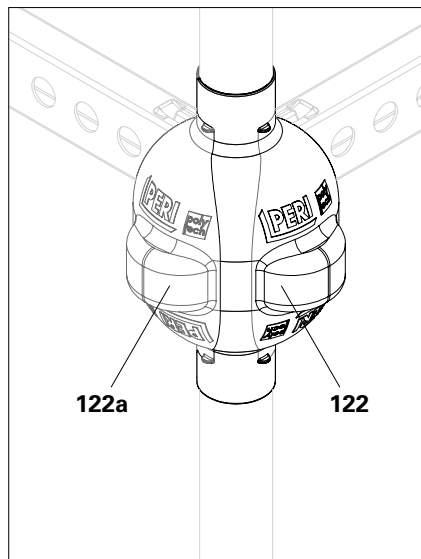

Fig. A8.06
1. Clip the Poly Cover Couplings UPC-C (122) onto the scaffold standard $d = 48.3 \text{ mm}$.
2. For ledgers arranged around a 90° corner: fit Poly Cover UPC-C (122 + 122a) in an overlapping manner. (Fig. A8.06)